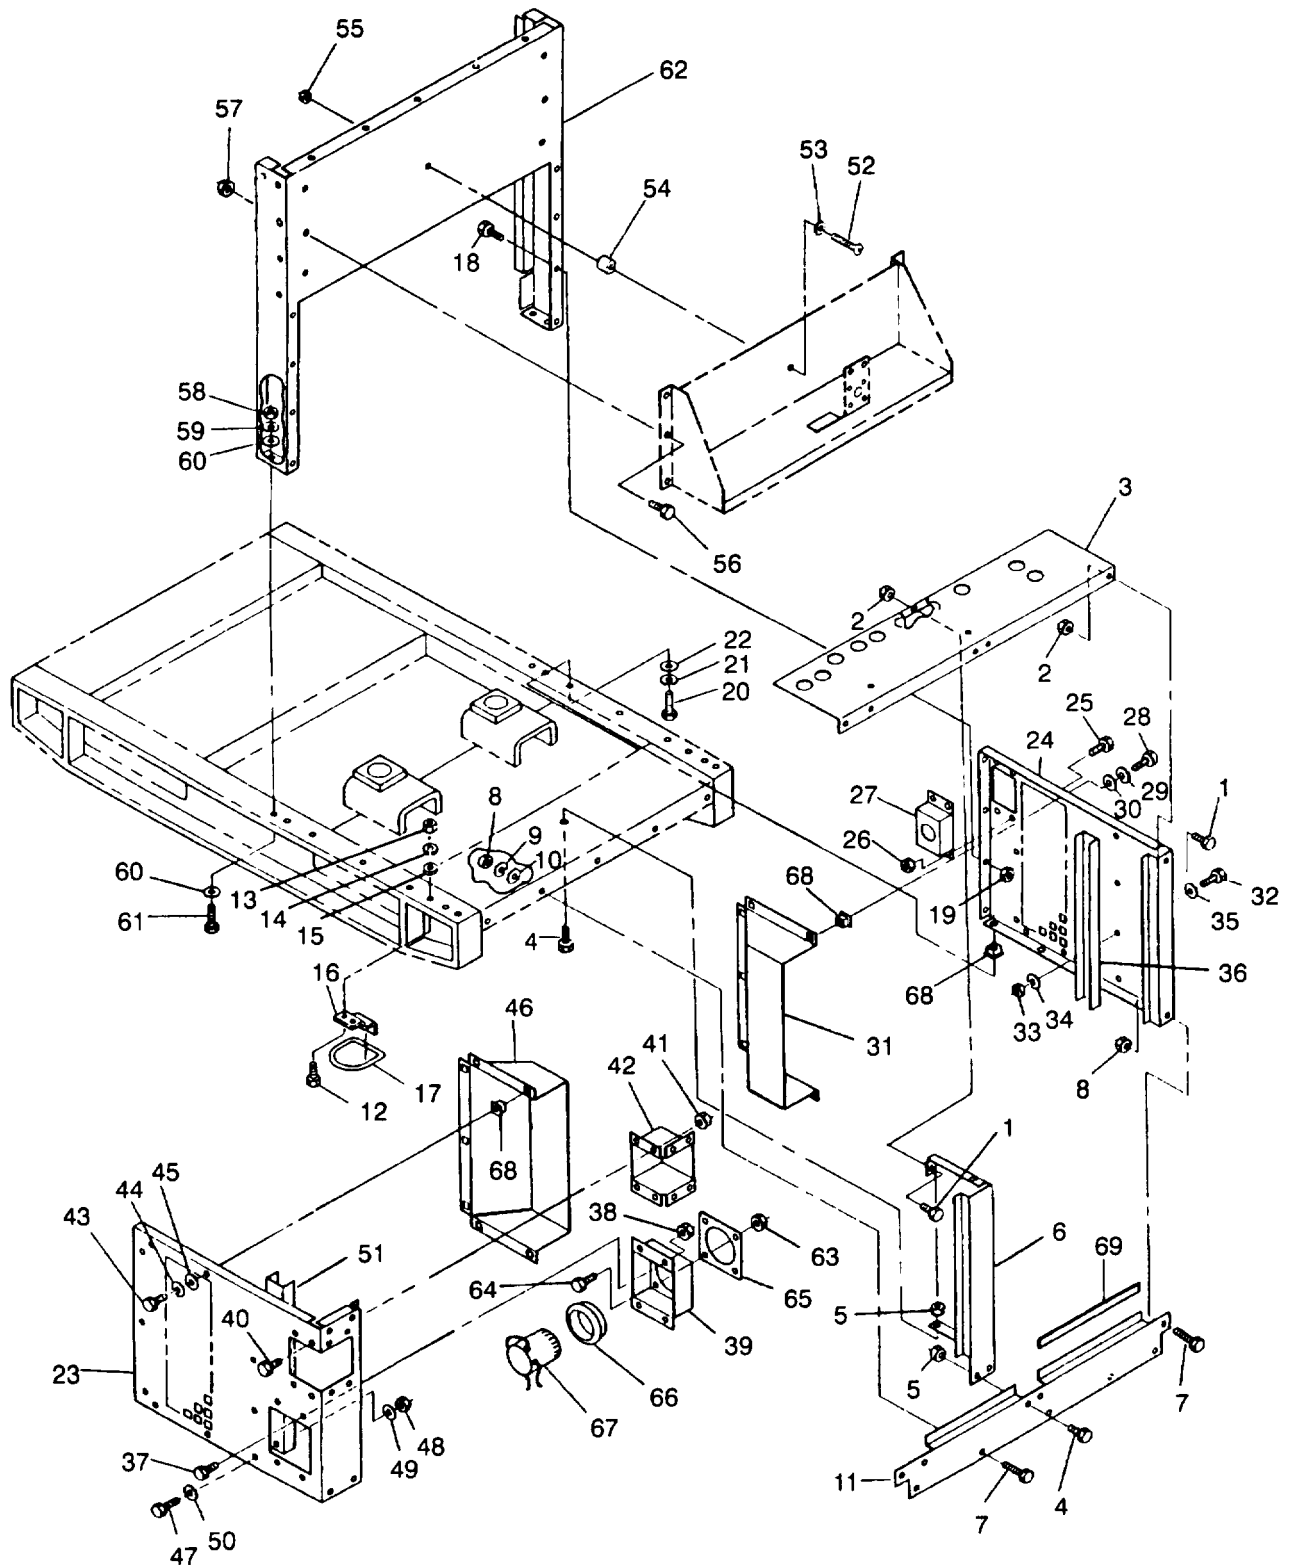

Figure 2-9. Generator set rear Housing Section
- n. Remove bolts (1, Figure 2-9), nuts (2), and upper door sill (3).
- o. Remove bolts (4), nuts (5), and center door post (6).
- p. Remove bolts (7), nuts (8), lockwashers (9), washers (10), and lower door sill (11).
- q. Remove bolts (12), nuts (13), lockwashers (14), washers (15), rear lifting rings brackets (16), and lifting rings (17).
- r. Remove bolts (18) and nuts (19), four places each side.
- s. Remove bolts (20), lockwashers (21), washers (22), and rear side panels (23) and (24).
- t. Remove bolts (25), nuts (26), and slave receptacle box (27) from side panel (24).
- u. Remove bolts (28), lockwashers (29), washers (30), and deflector (31) from side panel (24).
- v. Remove bolts (32), nuts (33), lockwashers (34), washers (35), and stiffener (36) from side panel (24).
- w. Remove bolts (37), nuts (38), and load entrance box assembly (39) from side panel (23).
- x. Remove bolts (40), nuts (41), and frequency control cable box (42) from side panel (23).
- c. Inspect for missing or damaged cage nuts (68, Figure 2-9).
- d. Inspect door seals (69) for looseness and damage.
- a. Install center housing panel (62, Figure 2-9) on generator set with bolts (61), washers (60), lockwashers (59), and nuts (58).
- b. Secure output box assembly to center housing panel (62) with bolts (52) and (56), nuts (55) and (57), washer (53), and spacer (54).
- c. Install stiffener (51) on side panel (23) with bolts (47), washers (50), lockwashers (49), and nuts (48).
- d. Install deflector (46) on side panel (23) with bolts (43), lockwashers (44), and washers (45).
- e. Install frequency control cable box (42) on side panel (23) with bolts (40) and nuts (41).
- f. If removed, install sleeve (67), ring (66), gasket (65), nuts (63), and bolts (64) to load entrance box (39).
- g. Install load entrance box assembly (39) on side panel (23) with bolts (37) and nuts (38).
- h. Install stiffener (36) on side panel (24) with bolts (32), washers (35), lockwashers (34), and nuts (33).
- i. Install deflector (31) on side panel (24) with bolts (28), lockwashers (29), and washers (30).
- j. Install slave receptacle box (27) on side panel (24) with bolts (25) and nuts (26).
- k. Install rear side panels (23) and (24) on generator set with bolts (20), lockwashers (21), and washers (22).